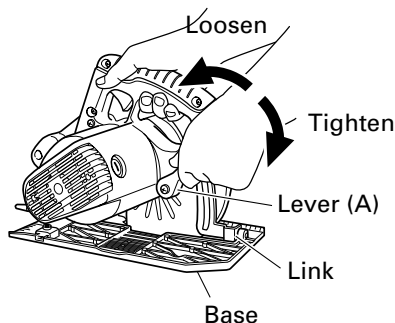
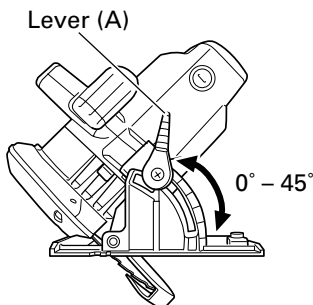

Fig. 10
Fig. 11
7. Check if lever (A)s are tightened.
If the lever (A) to adjust cutting depth (Fig. 10) and lever (A) to adjust angle of inclination (Fig. 11) are loose, injury can result. Make sure that they are tightened securely.
1. Adjusting the cutting depth (Fig. 10)
As shown in Fig. 11 by loosening the lever (A) on the bevel scale, the saw blade may be inclined to an angle of 45° in relation to the base.